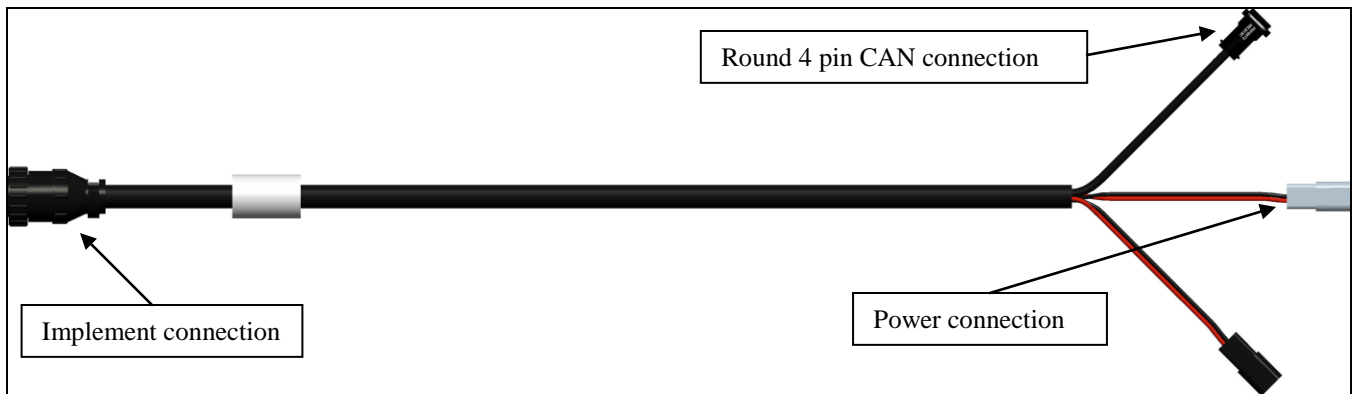

Figure 6. CAN/Power cable (P/N: 4001979-3)
4. Connect the CAN/power cable (P/N: 4001979-3) to the display cable (P/N: 4004671-12) with round 4 pin connector as shown in Figures 6. and 7. Route the CAN/ power cable (P/N: 4001979-3) out to the hitch area of the tile plow. Insure that the cable is routed in a manner that it will not be chafed or pinched during machine operation.